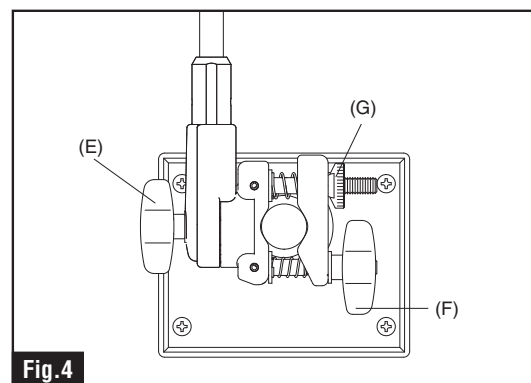
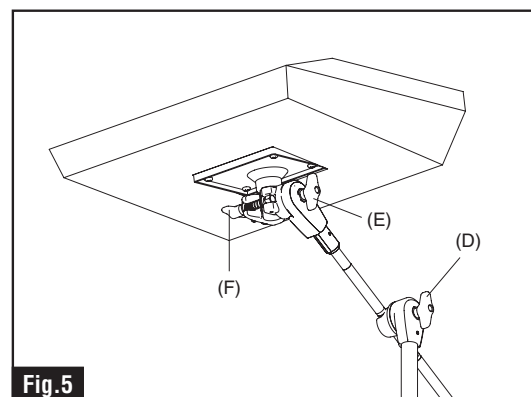

Fig.4
Fig.5
- Loosen the T-bolt (A) and extend the tripod legs out so that the stand sits upright. When mounting your multipad in a higher position, extend the tripod legs wider for increased stability. Loosen the T-nut (B) & (C) to adjust the approximate height of the stand and securely tighten them in place.
- Loosen the T-nut (D) and remove the boom arm from the stand.
- Attach the mounting plate pipe to the clamp at the end of the boom arm. Loosen the T-nut (F) and open the clamp to fit the mounting plate pipe. When attaching the pipe to the clamp, tighten T-nut (F) and round nut (G) evenly while placing the clamp and cover in a parallel position as shown in Fig.4.
- After attaching your multipad to the clamp, attach the boom arm to the boom tilter while firmly holding the clamp and multipad base with one hand. Initially secure the boom arm in the shortest position and tightening T-nut (D).
- Adjust the position of the multipad by loosening T-nut (D), (E), and (F). When making adjustments, make sure not to loosen T-nut (F) too much, which may cause the multipad to come loose and fall. Be careful not to confuse T-nut (F) with (E) during the adjustment (see fig.5).